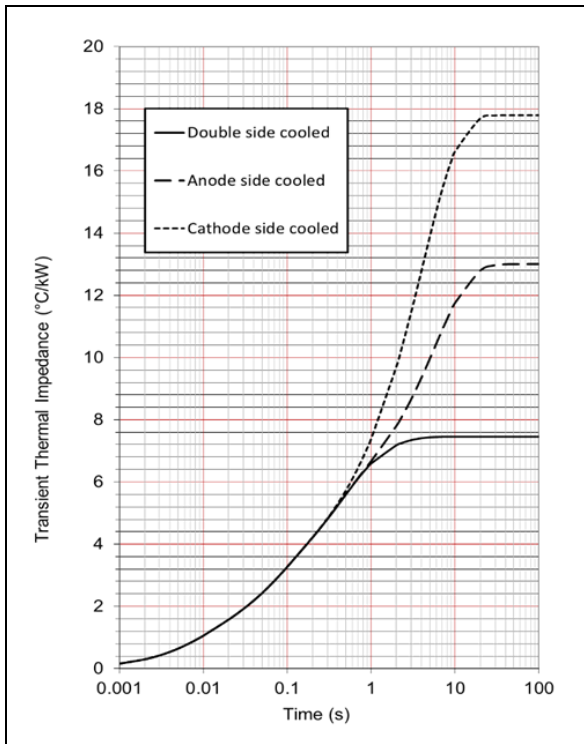

Fig. 9 Maximum (limit) transient thermal impedance – junction to case (degC/kW)
Fig. 9 gives the maximum transient thermal impedance curve, junction-to-case, for double-side, anode-side and cathode-side cooling arrangements. Note that the units are °C/kW. The transient thermal impedance curve ($Z_{th(j-c)}$) gives the temperature response to a unit power step (1kW). If the time interval is sufficiently long then the curve reaches the steady state DC value given in the table of “Thermal and Mechanical Ratings”. The $Z_{th(j-c)}$ curve is obtained by thermal modelling of the device using a finite element (FE) method and is verified by measurements. An analytical equation of the curve is also given represented by the sum of four exponential terms:
The curve fit parameters R_i and τ_i are given in the table of Fig. 9. $Z_{th(j-c)}(t)$ is used to calculate the device junction temperature for time dependant power dissipation.
The two simplest and most common waveforms are the half sine and rectangular wave. With these repetitive wave shapes the peak junction temperature reached is slightly above that calculated using the average power dissipation and increases with decreasing conduction angle. To allow for this, incremental values ΔZ_{th} dependent upon wave shape are given in a table within Fig. 9. These values should be added to the values of appropriate $Z_{th(j-c)}(t)$ curve. Please note that ΔZ_{th} values are given in °C/W.